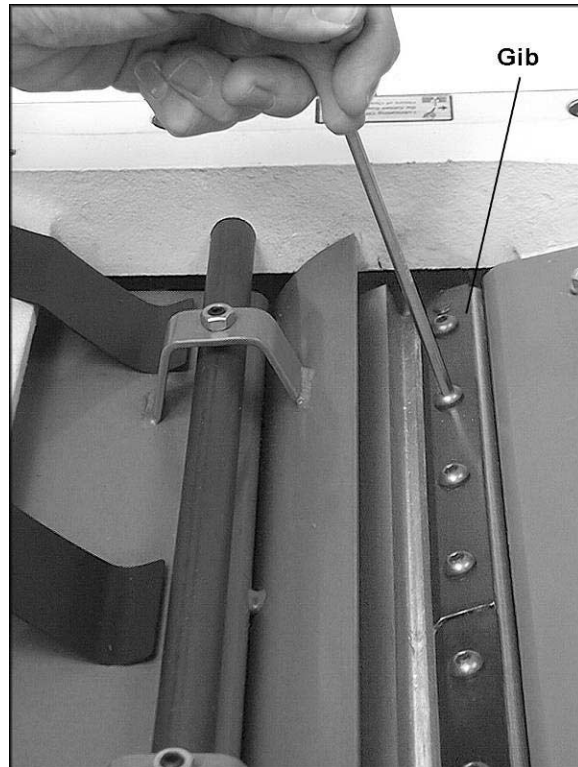

Figure 17
2. Remove the gib screws and the gib (Figure 17) using a T-handle hex wrench.